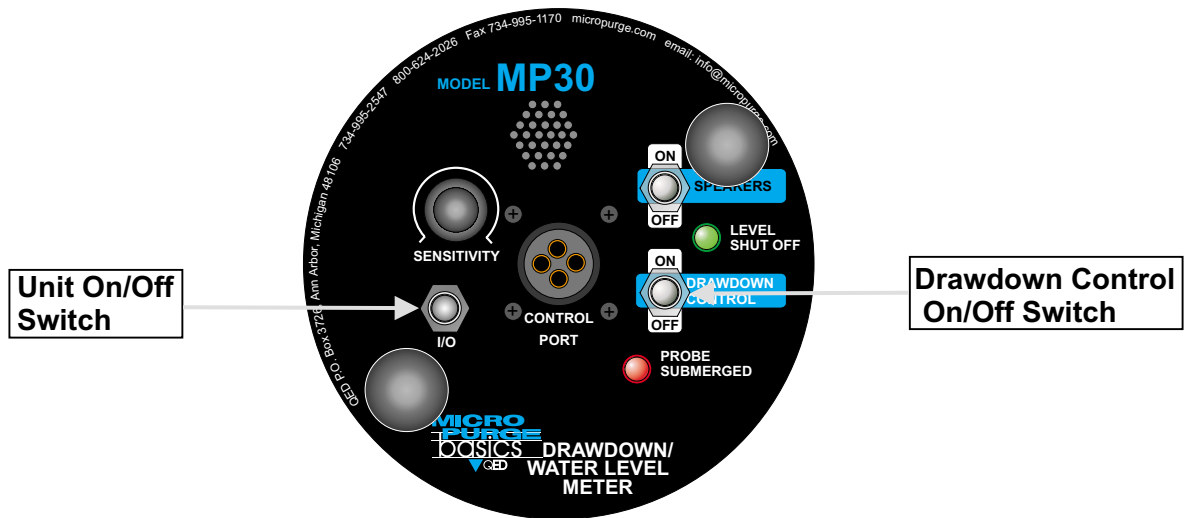

Figure 1
1. Determine static water level with MP30 Drawdown Control Meter power switched "ON" and Drawdown Control mode switched to "OFF" (see Figure 1 below).